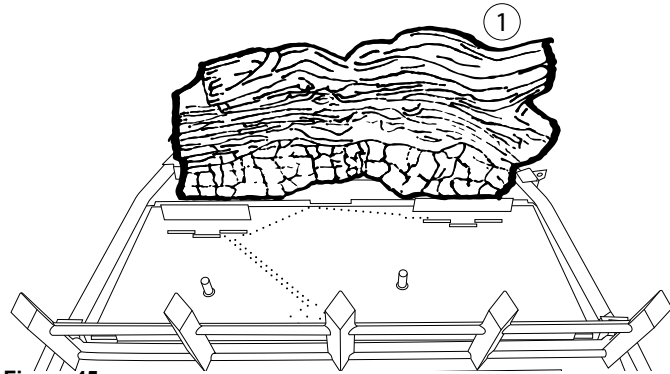

Figure 45.
1. Place the rear log (#1) on the rear pins located on the log support bar. (See Figure 45.)